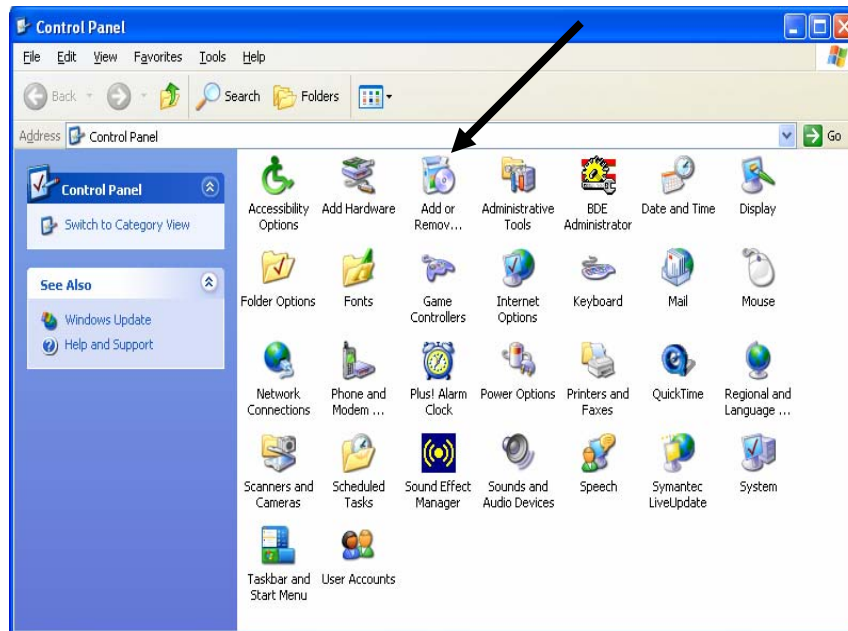

Figure 35
3. Double click the **Add/Remove Programs** icon (Figure 35).